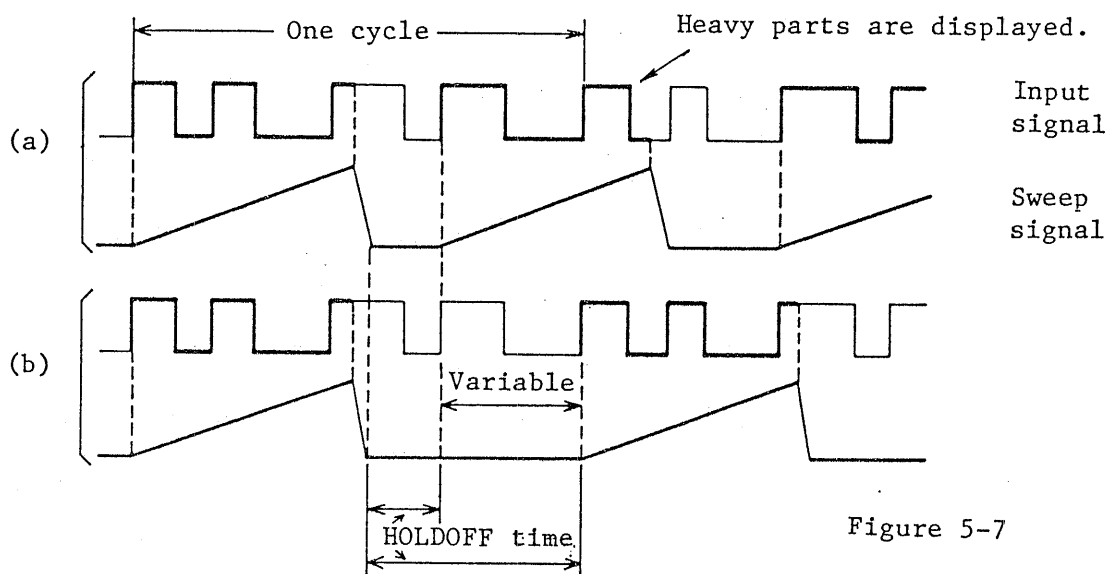
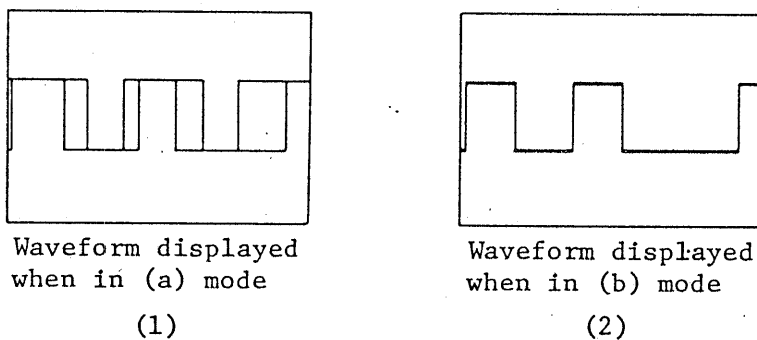

Figure 5-7
Figure 5-8
waveform by turning the HOLD OFF control. The hold-off function for stable display of a complex waveform is illustrated in Figure 5-8.
Figure 5-7 (a) shows the state of triggering when the HOLDOFF knob is set in the NORM position (no holdoff function effected). Since different parts of waveforms of different cycles are triggered, the waveform displayed on the screen will be with different parts of waveforms overlapped as shown in Figure 5-8 (1). Figure 5-7 (b) shown the state of triggering with the holdoff function in effect. In this case the same parts of waveforms of different cycles are triggered as triggering is held off for the time required for proper synchronization. A waveform without overlapping as shown in Figure 5-8 (2) will be displayed.